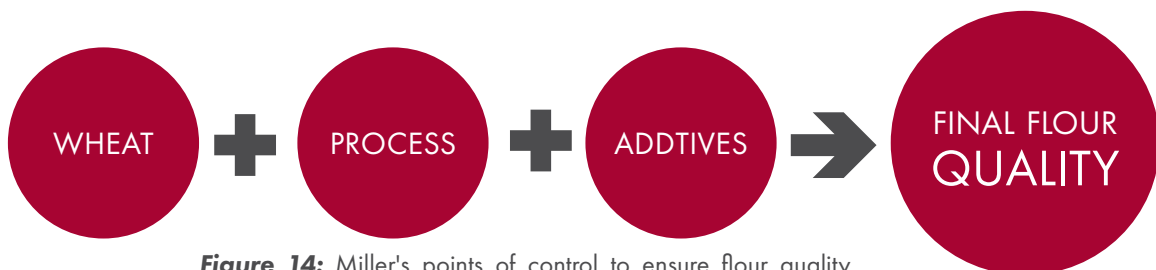

Figure 14: Miller's points of control to ensure flour quality
Figure 14 shows the main points of control (so as not to be confused with HACCP critical control points) that the miller has available to create a flour filling the baker's requirements.
- There is a need to understand that this "ready to use" flour depends (at least) on the 3 drivers mentioned in **Figure 14**:
| Figure 14: Miller's points of control to ensure flour quality..... | 25 |